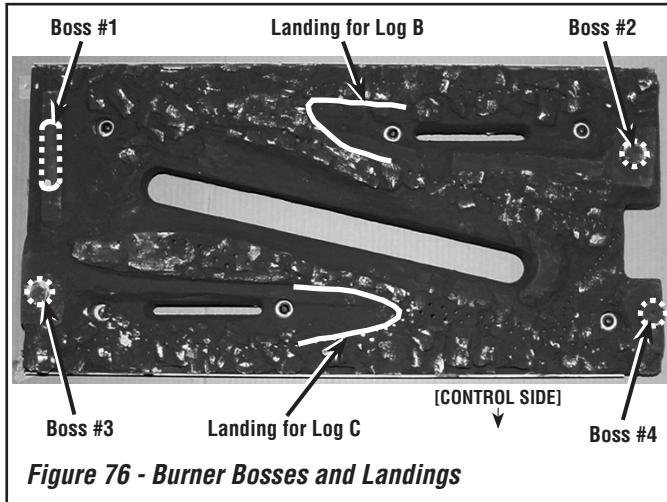
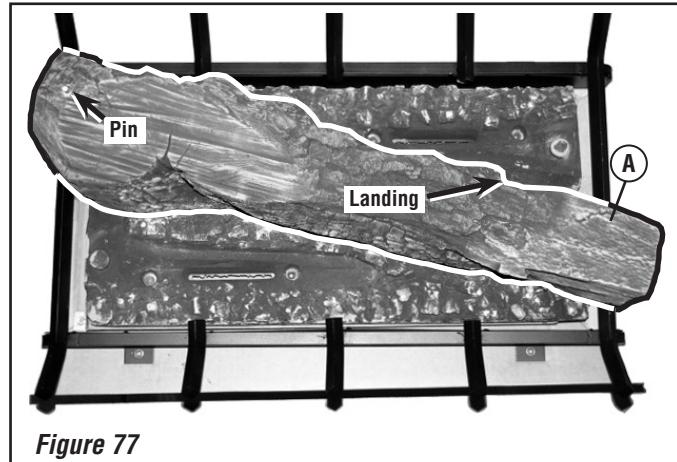
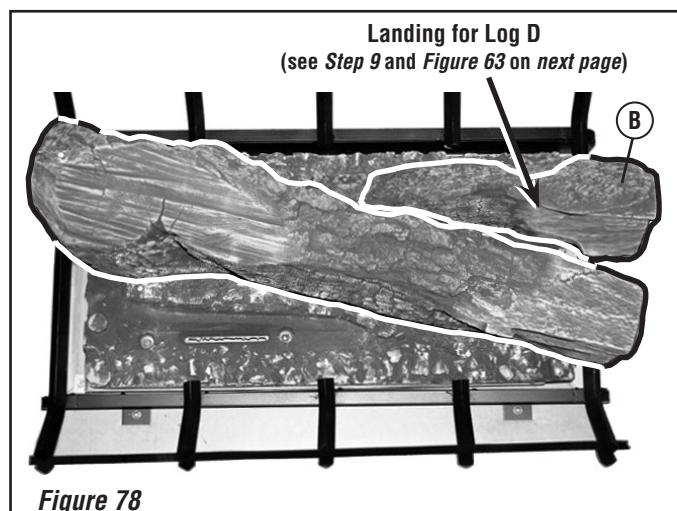

Figure 76 - Burner Bosses and Landings
Figure 77
Figure 78
6. Place rectangular notches on underside of **Center Log A (*Figure 77*) over **Boss #1** and **Boss #4** (*Figure 76*).**
7. Place notch on underside of **Right Rear Log B (*Figure 78*) over **Boss #2** (*Figure 76*).**
Place opposite end of **Right Rear Log B** (*Figure 78*) on **Landing for Log B** (see *Figure 76*).
8. See *Figures 76 and 79*. Place notch on underside of **Left Front Log C over **Boss #3**.**
Place opposite end of **Left Front Log C** on **Landing for Log C** (see *Figure 76*).
The middle section of **Log D** will rest on the landing on **Log B** (labeled as “**Landing for Log D**” in **Figure 78**).